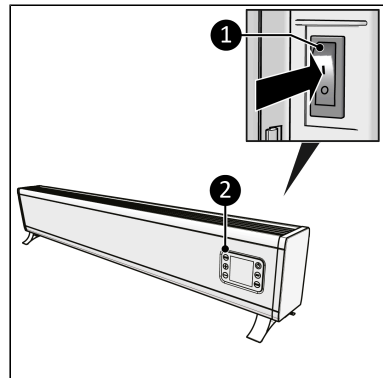

Figure 31.
1. Set the ON/OFF switch to the ON position (Figure 31, pos. 1).
2. The display (Figure 31, pos. 2) will show OFF.